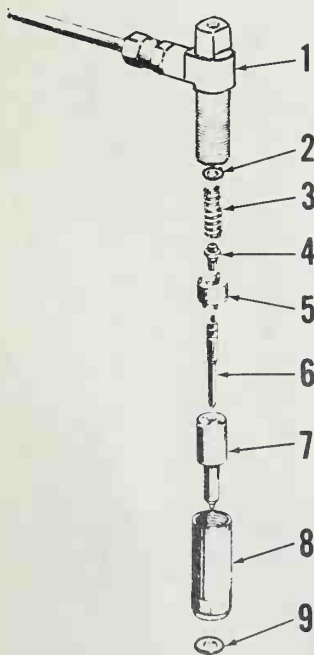

Fig. W1-7—Exploded view of injector.
Reverse removal procedure to reinstall injector. Install a new copper washer (9—Fig. W1-7). Tighten injector retaining plate nuts to 9.8 N·m.
Opening pressure on Models WD1-340, WD1-350 and WD1-430 should be 20.1-21.1 MPa. Opening pressure on Models WD1-660, WD1-670 and WD1-750 should be 24.0-25.0 MPa. Opening pressure is adjusted by varying number and thickness of shims (2—Fig. W1-7). Valve should not show leakage at orifice for 10 seconds at 17.6 MPa.
OVERHAUL. Clamp injector body (1—Fig. W1-7) in a vise with nozzle pointing upward, unscrew nozzle holder nut (8) then remove injector components shown in Fig. W1-7. Thoroughly clean all parts in a suitable solvent. Clean inside orifice of nozzle tip with a wooden cleaning stick. When reassembling injector, make certain all components are clean and wet with clean diesel fuel oil. Tighten nozzle holder nut (8) to 49 N·m.